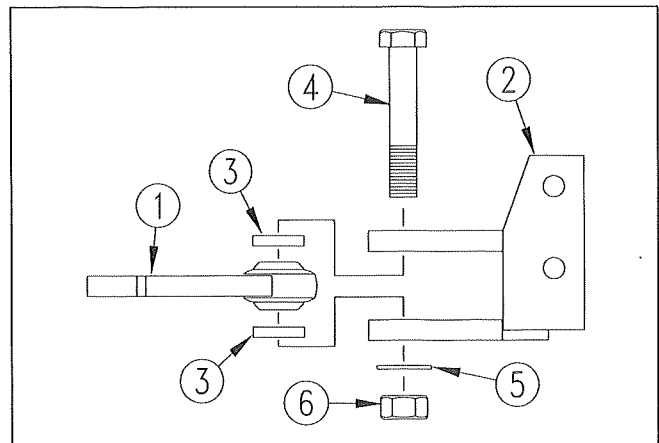

Figure 3
**Refer to Figure 3**
1. Insert upper hitch plate ① into clevis hitch ② with a spacer tube ③ on each side of ball swivel.
2. Bolt in place with 1 x 5 1/2 inch bolt ④, flat washer ⑤ and nylock nut ⑥.